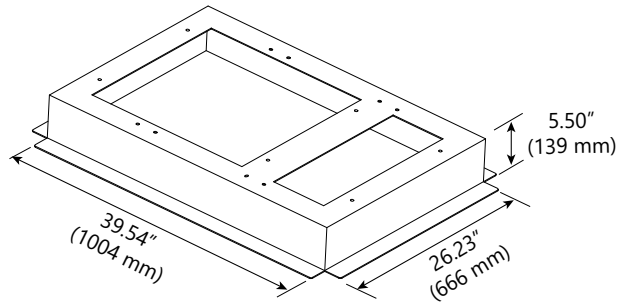
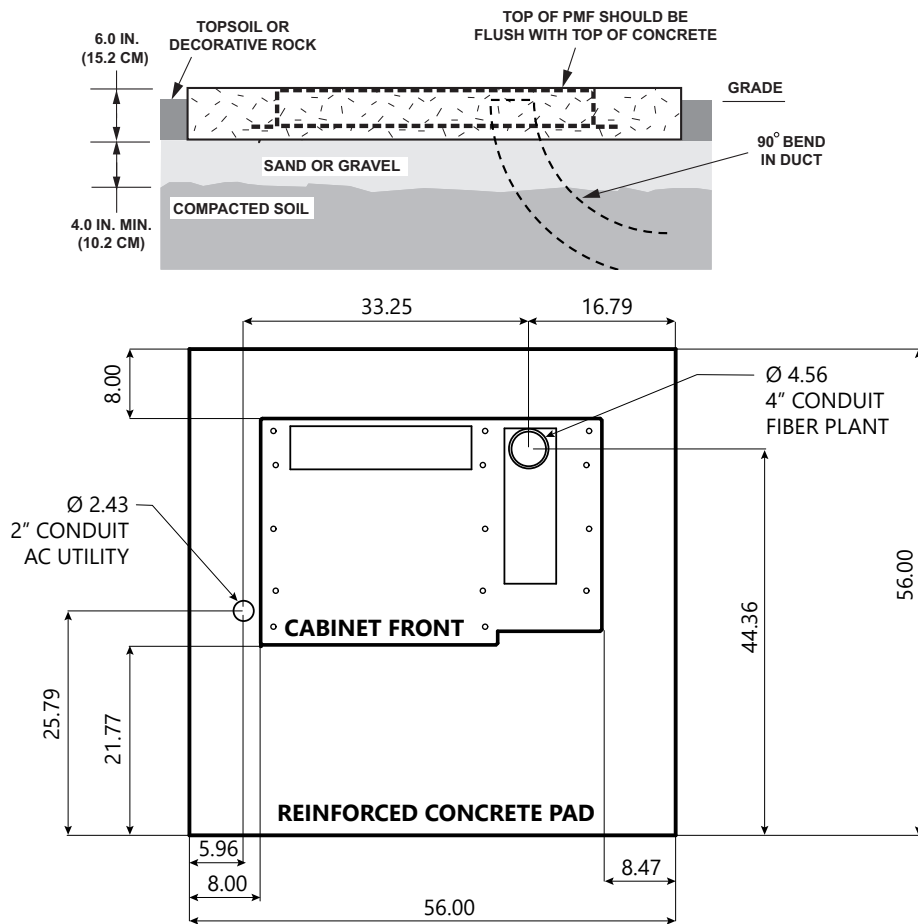
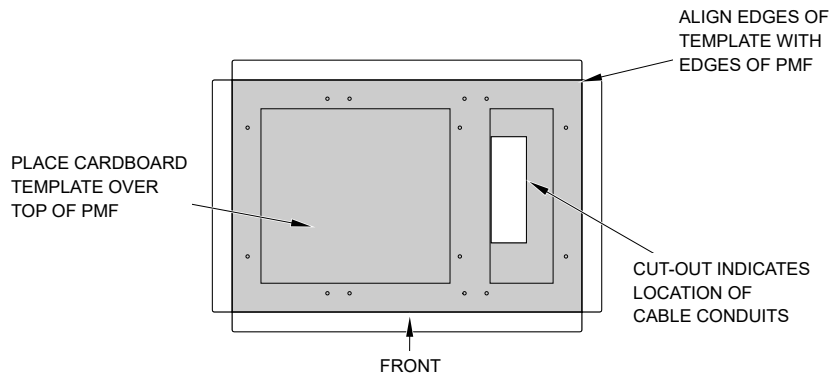
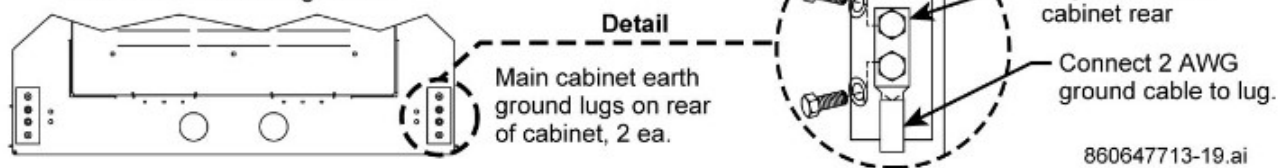

Figure 11. Pad Mount Frame Dimensions
Figure 12. Example of Cabinet Installation with 3-Inch Plinth on a Concrete Pad
Figure 13. Using the Template To Determine Duct Location Within the PMF
Figure 27. Main Earth Grounding
The Pad Mount Frame, shown in Figure 11, is a stainless-steel frame that provides a mounting base for the cabinet when embedded in a concrete foundation.
- Refer to the construction diagram in Figure 12 for details.
- Place the template over the top of the PMF and align the top right corner of the template with the top right corner of the PMF as shown in Figure 13.
- Locate the PMF as shown in the construction diagram (see Figure 12). When installed, the top surface of the PMF must be flush and level with the top of the concrete pad.
Install a grounding system (not provided) that meets all local electrical codes. Check local codes for grounding system installation, use of clamps, wire size, and any other grounding requirements. Typically, #6 AWG copper wire is used for the ground wire. If the grounding system includes a ground rod, install the rod (see Figure 12) within the PMF opening at the indicated point. When installed, the top of the rod should be located 1 to 2 inches (2.54 to 5.08 cm) below the top of the finished concrete pad. Leave sufficient slack in the grounding wire to allow it to be routed into the cabinet after the cabinet is mounted on the pad.
Note: If routing cable through pad (structure), remove floor knockouts (punch outside to inside) before installing cabinet; Figure 13.
- With cabinet suspended, open the door and align floor holes to pad anchors, setting cabinet onto gasket; Figure 12 without plinth, Figure 13 with plinth.
Note: If routing cable through pad (structure), remove floor knockouts before placing cabinet onto gasket; Figure 11, Figure 12, Figure 18 and Figure 27.
Connect cabinet to earth ground with at least one ground lug at bottom rear of cabinet, Figure 27.
- Ground external ancillary equipment to the 8-position ground bar located in the cabinet. The ground bar uses 1/4"-20 studs spread at .625" (15.875 mm) C-C, Figure 27.